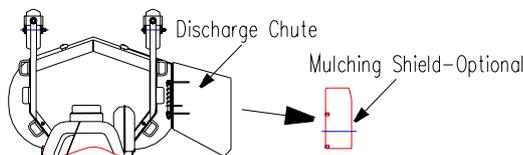

FIG4
Install the discharge chute as show in FIG4
- FIG4.